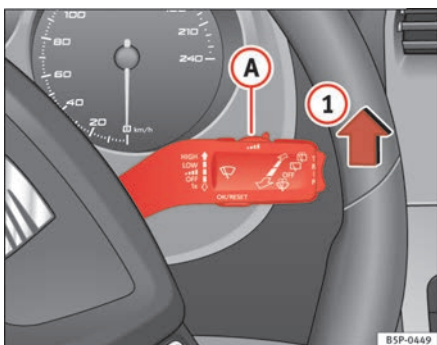

Fig. 86 Windscreen wiper lever
- Move the windscreen wiper lever into position ① ⇒ fig. 86.
- Move the control ① to the left or right to set the sensitivity of the rain sensor. Control to the right: highly sensitive. Control to the left: less sensitive.